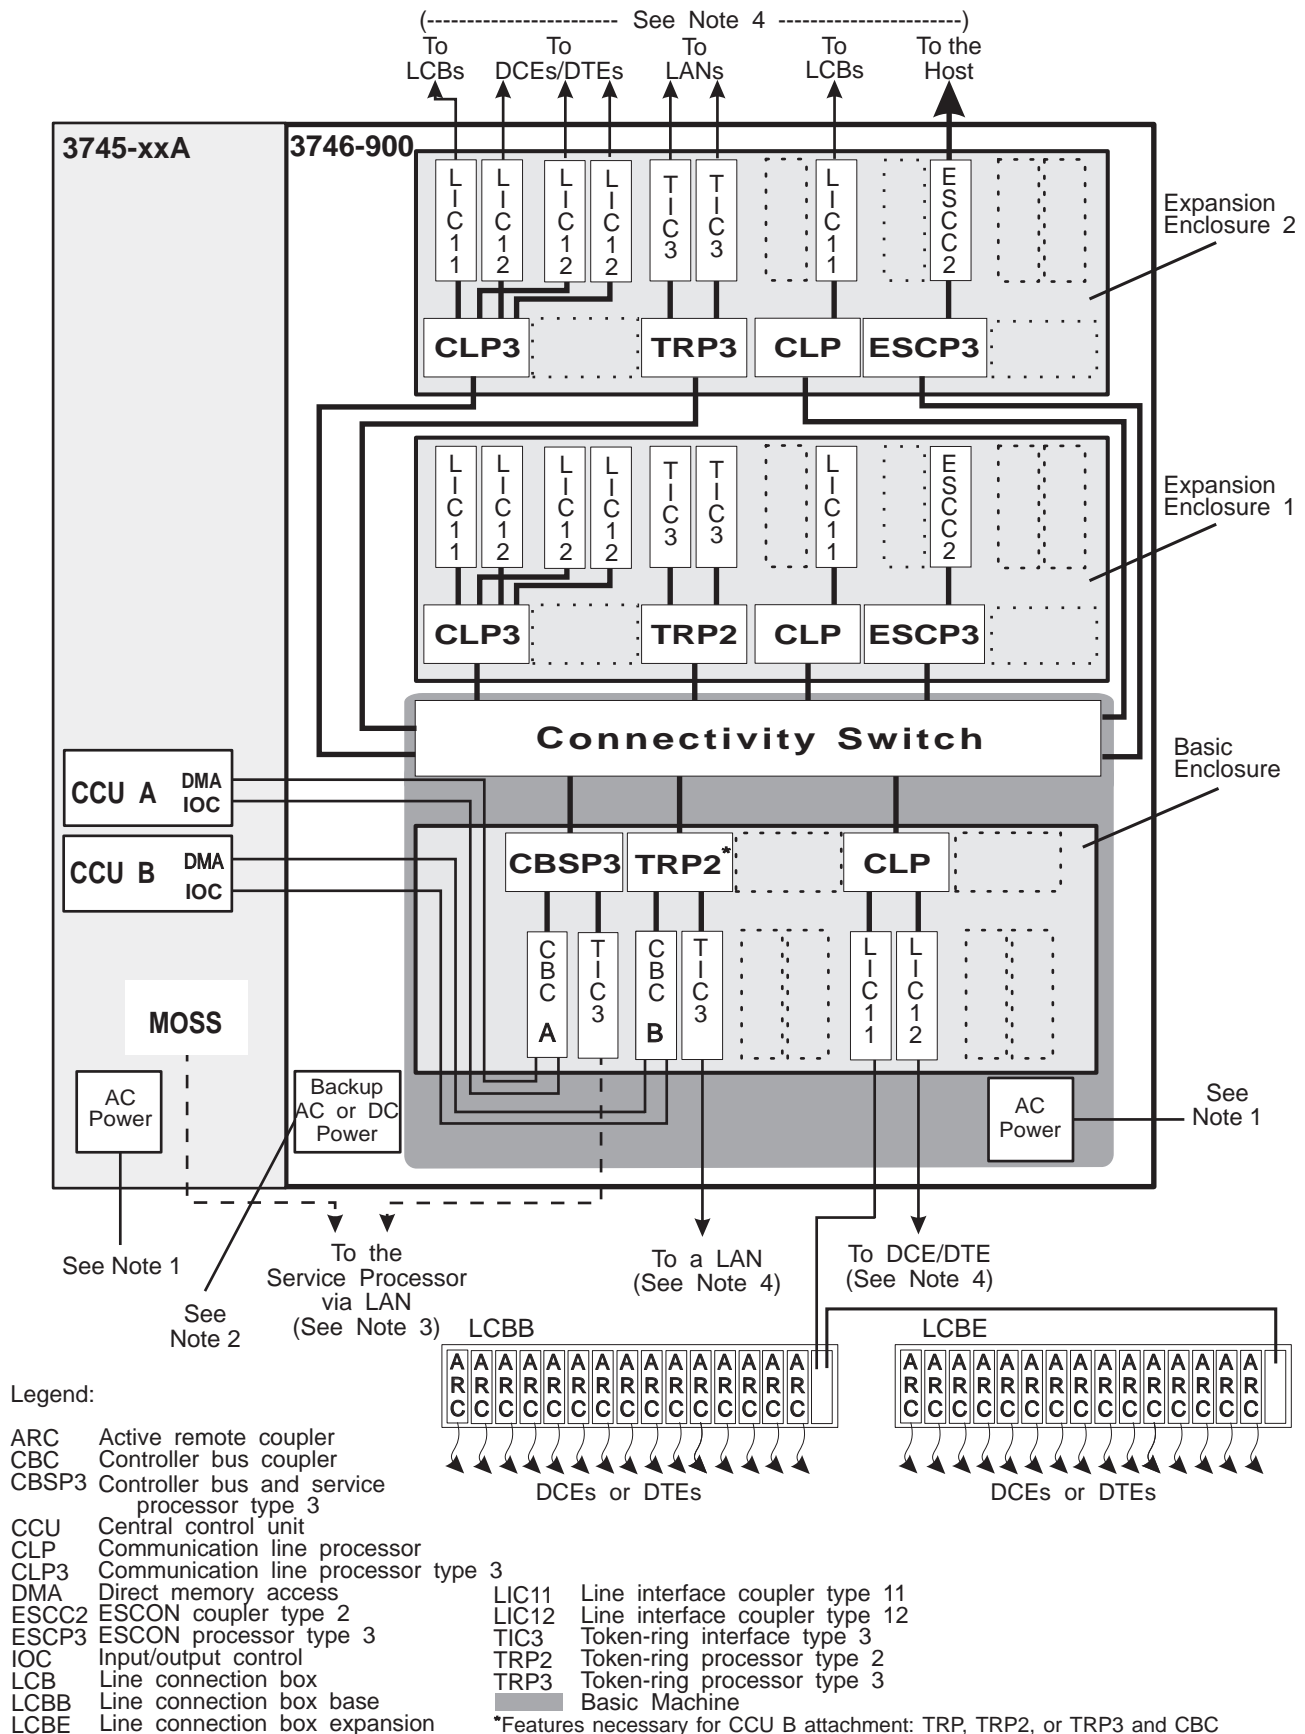

Figure 1. 3746-900 Physical Connectivity. The notes for this figure are on page 2.
Figure 1 on page 3 shows a 3746-900 with two expansion enclosures and a variety of processors and LICs.
**Notes for Figure 1 on page 3:**